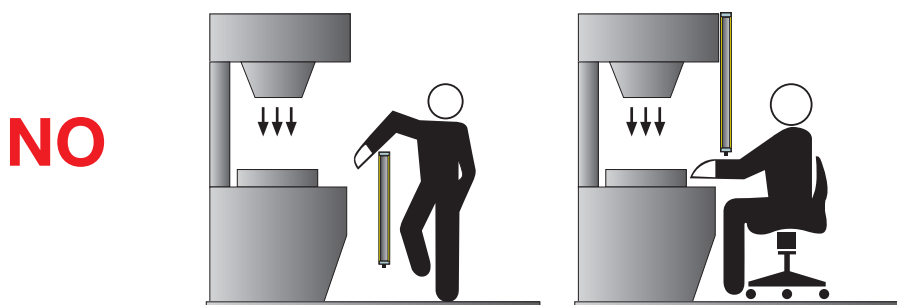
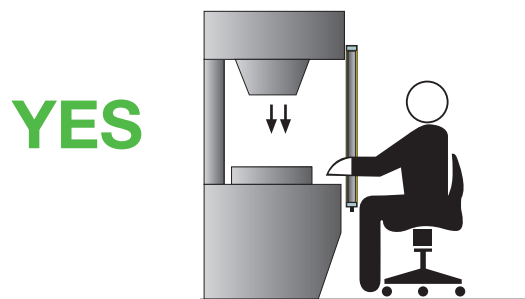

Fig. 5a
Fig. 5b
**⚠ Fig. 5a shows some examples of possible access to the machine from the top and the bottom sides. These situations may be very dangerous and so the installation of the safety light curtain at sufficient height in order to completely cover the access to the dangerous area (Fig.5b) becomes necessary.**